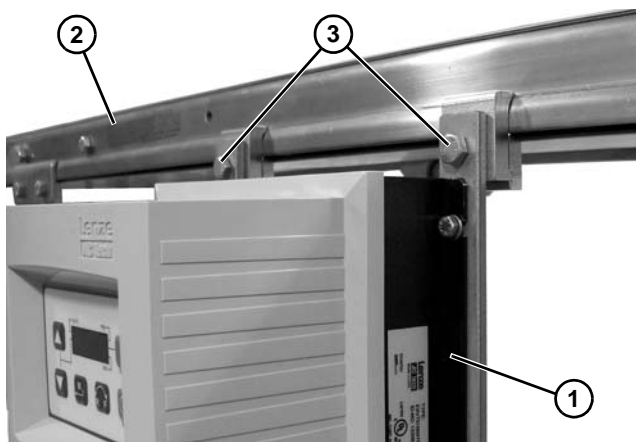

Figure 19
3. Attach controller (**Figure 19, item 1**) to conveyor (**Figure 19, item 2**) with screws (**Figure 19, item 3**).